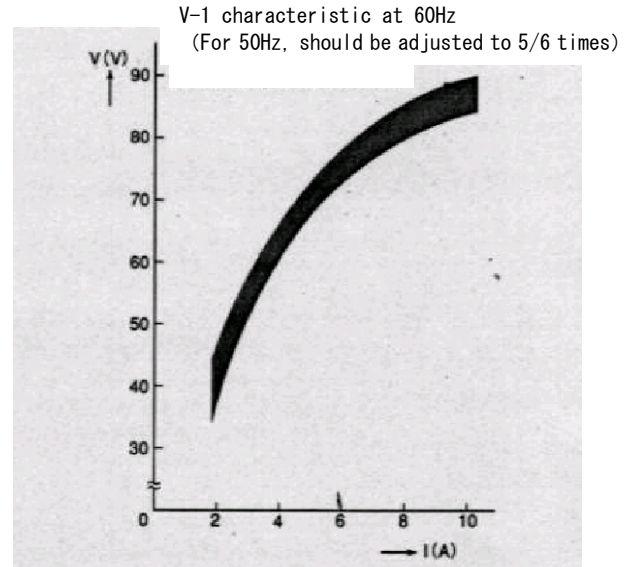

Fig. 2-8 MGR-A1T reactor
- (1) This ground relay uses solely the current of the zero-phase current transformer, and has no Directionality on its operation principle. In other words, the relay operates only by the side of current. So, if the ground capacitance on the load side large (the cable is laid over a long distance), please take the use of a MDG-A1 directional ground relay into consideration.
- (2) Do not push the test switch unless for testing purpose.
- (3) Avoid using Kt and It terminal of the zero-phase current transformer for purpose other than testing. Keep them open in normal use.
- (4) When using a MGR-A1T-R relay, check the matching of Impedance characteristics the building reactor and that of the trip coil of the circuit-breaker to be Com-binned with the reactor, and determine combination that can ensure a flow of 3A or more current. (See Fig. 2-8)